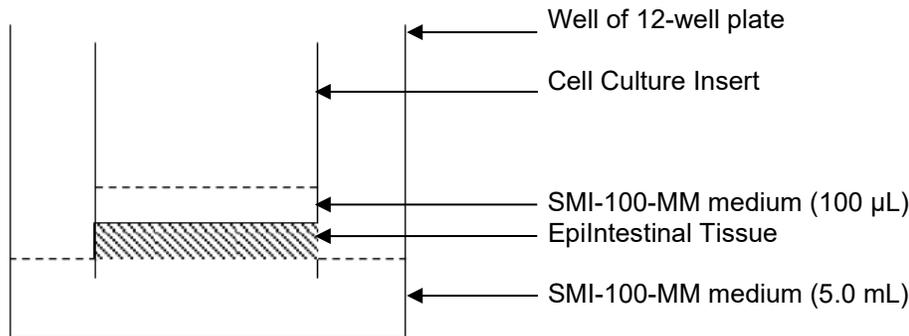

Figure 2: Pre-equilibration of EpiIntestinal tissue (overnight at 37°C, 95% rH, 5% CO₂).
b) **Transfer tissues:** Under sterile conditions, open the package containing the tissue samples and using sterile forceps, transfer the inserts from the agarose package into the hanging-top lid (**Figure 1C**). Care should be taken to remove all agarose sticking to the outside of the cell culture inserts containing the tissue samples. Pipette 100 µL of the pre-warmed SMI-100-MM medium (provided) onto the apical surface of each tissue (**Figure 2**).
c) **Pre-equilibration:** Place the regular lid over the hanging-top lid (**Figure 1D**) and return the fully assembled HNG-TOP-12 plate containing the EpilIntestinal samples into a humidified incubator overnight at 37°C, 5% CO₂. This allows the tissues to recover from the stress of shipping (**Figure 2**). *Note: Any air bubbles trapped underneath the cell culture insert should be released (tilt the cell culture insert using a sterile forceps) so that adequate nutrients are supplied to the EpilIntestinal tissues.*